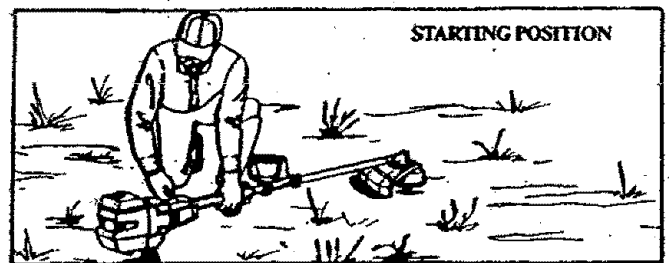

Figure 10
- c. Rest Engine and Shield on ground, supporting Trimmer Head off the ground away from trees, bushes, onlookers, etc. Figure 10.